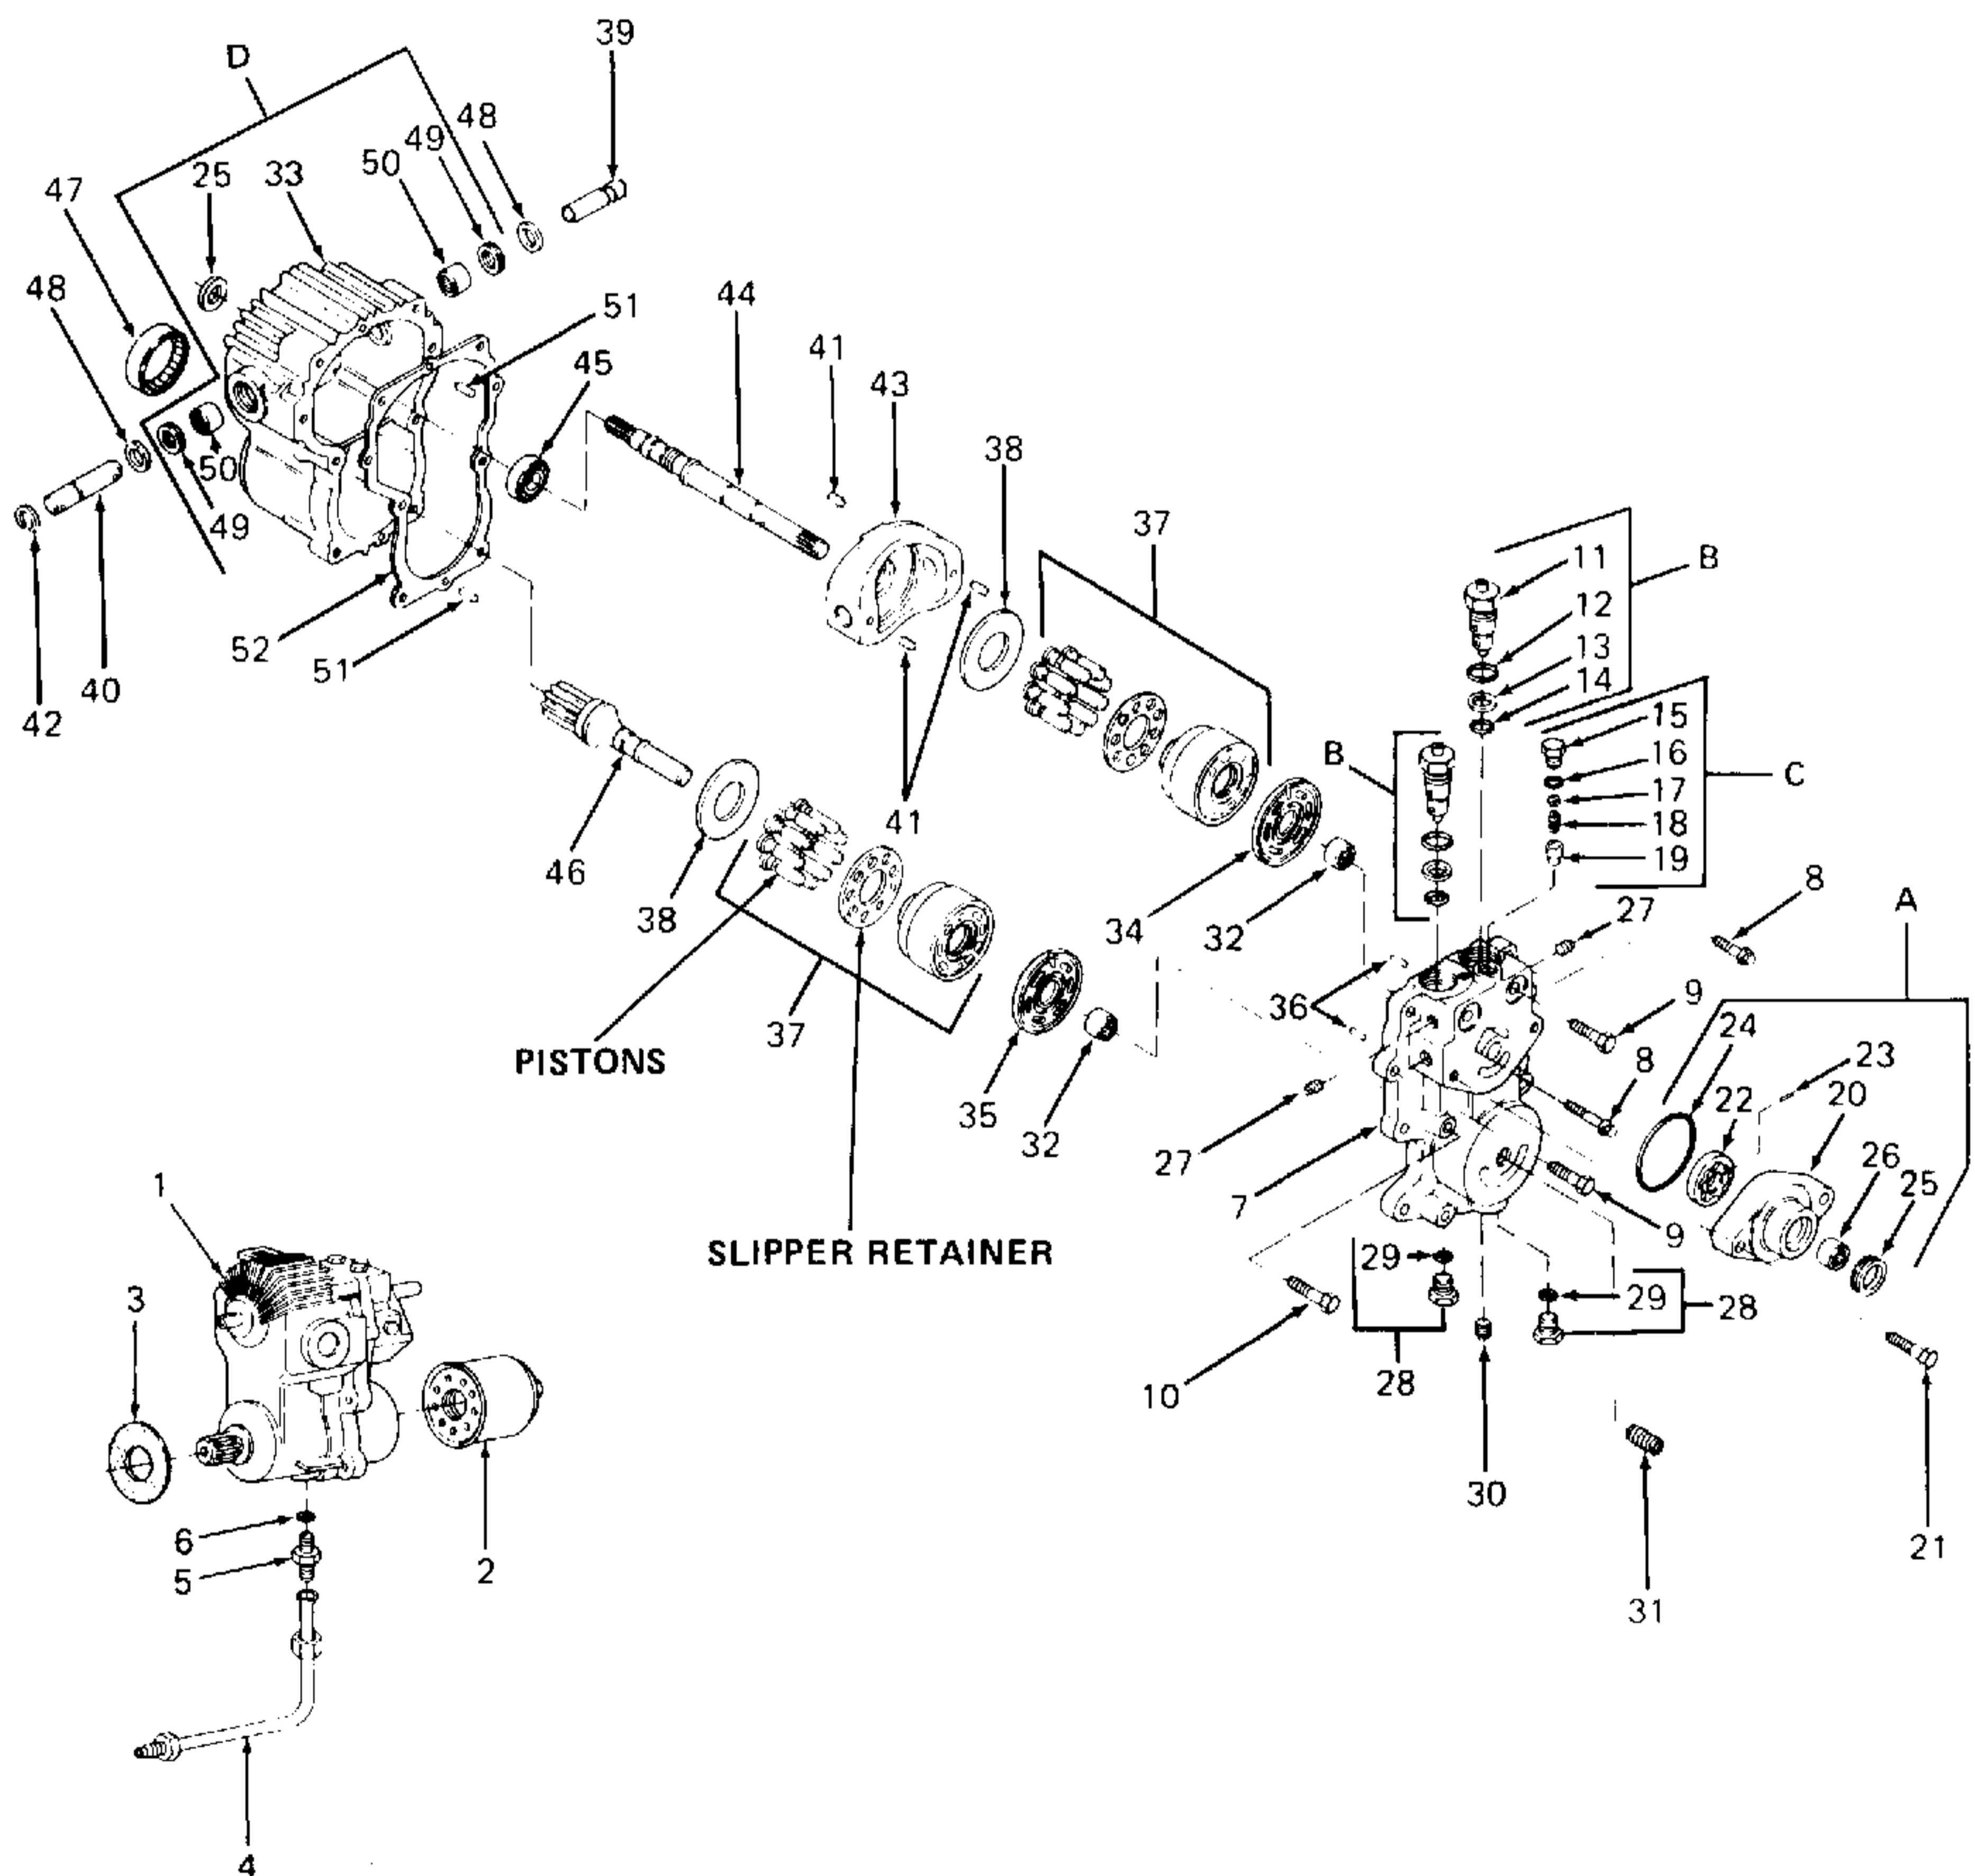

Figure 5-79. Hydrostatic Transmission (Models 1340 and 1860).
3. Place a pan under tube assembly (4, Figure 5-79) to collect oil. Loosen tube assembly by removing compression nut and rotate tube out of way.
4. Remove oil filter (2).
5. Remove four hex patch lock bolts which secure hydrostatic pump (1) to adapter housing. Lift pump out of tractor.
Legend for Figure 5-79
c. Disassemble trunnion shafts (39 and 40, Figure 5-79) as follows:
- (3) Remove retaining ring (42, Figure 5-79) and trunnion shafts (39 and 40).
- d. Remove swashplate (43) and drive out remaining pin (41).
- e. Remove pump shaft (44) and ball bearing (45).
- f. Remove and discard lip seal (25).
- g. Remove motor shaft (46) and roller bearing (47).
- h. Remove washer (48), lip seal (49) and needle bearing (50). Discard seal.
- i. Remove pins (51) and gasket (52). Discard gasket.
7. Inspect cylinder blocks (37, Figure 5-79 and 1, Figure 5-81) as follows: